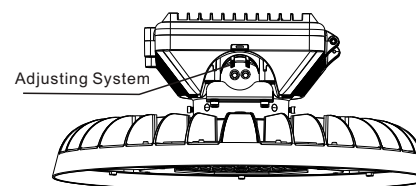
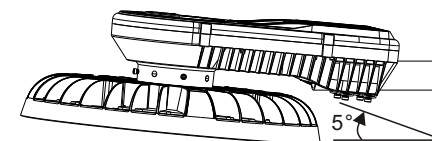

Figure 6
Figure 7
- The lamp can be adjusted vertically by 5° by adjusting the limit. Figure 6, Figure 7